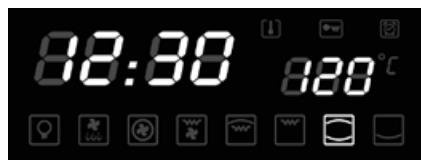

Fig. 1
2. Press the time of day button (3) to activate the mode of setting the time of day. The hour position blinks. Turn the -/+ selector to set the current hour on the display.
3. To set the current minutes, press the time of day button (3) again and turn the -/+ selector.
4. To confirm the setting, press the time of day button (3). The symbol ":" starts blinking (see Fig. 1).